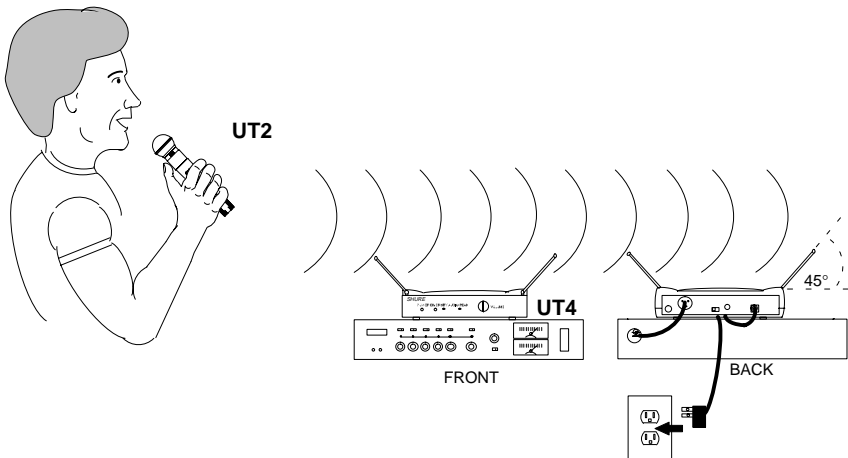

FIGURE 8
1. Refer to Figure 8. Connect the supplied ac power adapter into the DC INPUT connector in back of the receiver. Insert the adapter's cable into the power cable retainer. Plug the adapter into a wall socket or other ac power source (use PS20 for 120 Vac, 60 Hz power; use PS20E for 230 Vac, 50 Hz power). The green POWER light on the receiver will glow.